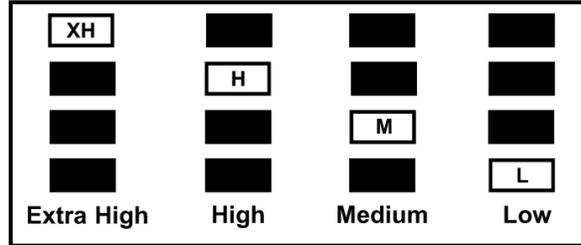

Figure 3: Gain Level Indicators
**Gain Level Indicator:** The gain range is indicated by a 4-segment LCD as shown in Figure 3; L (Low), M (Medium), H (High) and XH (Extra High). Upon turn on, the gain defaults to M (Medium). Each press of the UP or DOWN arrow buttons will cause the gain level indicator to change accordingly.